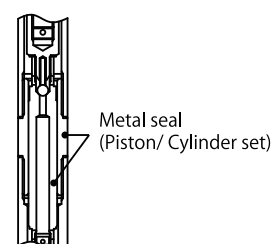

Fig.10
- 10) Wash each part and inspect for damage and wear. Replace parts as necessary. If the metal seal parts are damaged or worn out, grease will leak and discharge pressure cannot be increased, and consequently discharge volume will be decreased. In this case the piston and the cylinder must be replaced. (Fig.10)